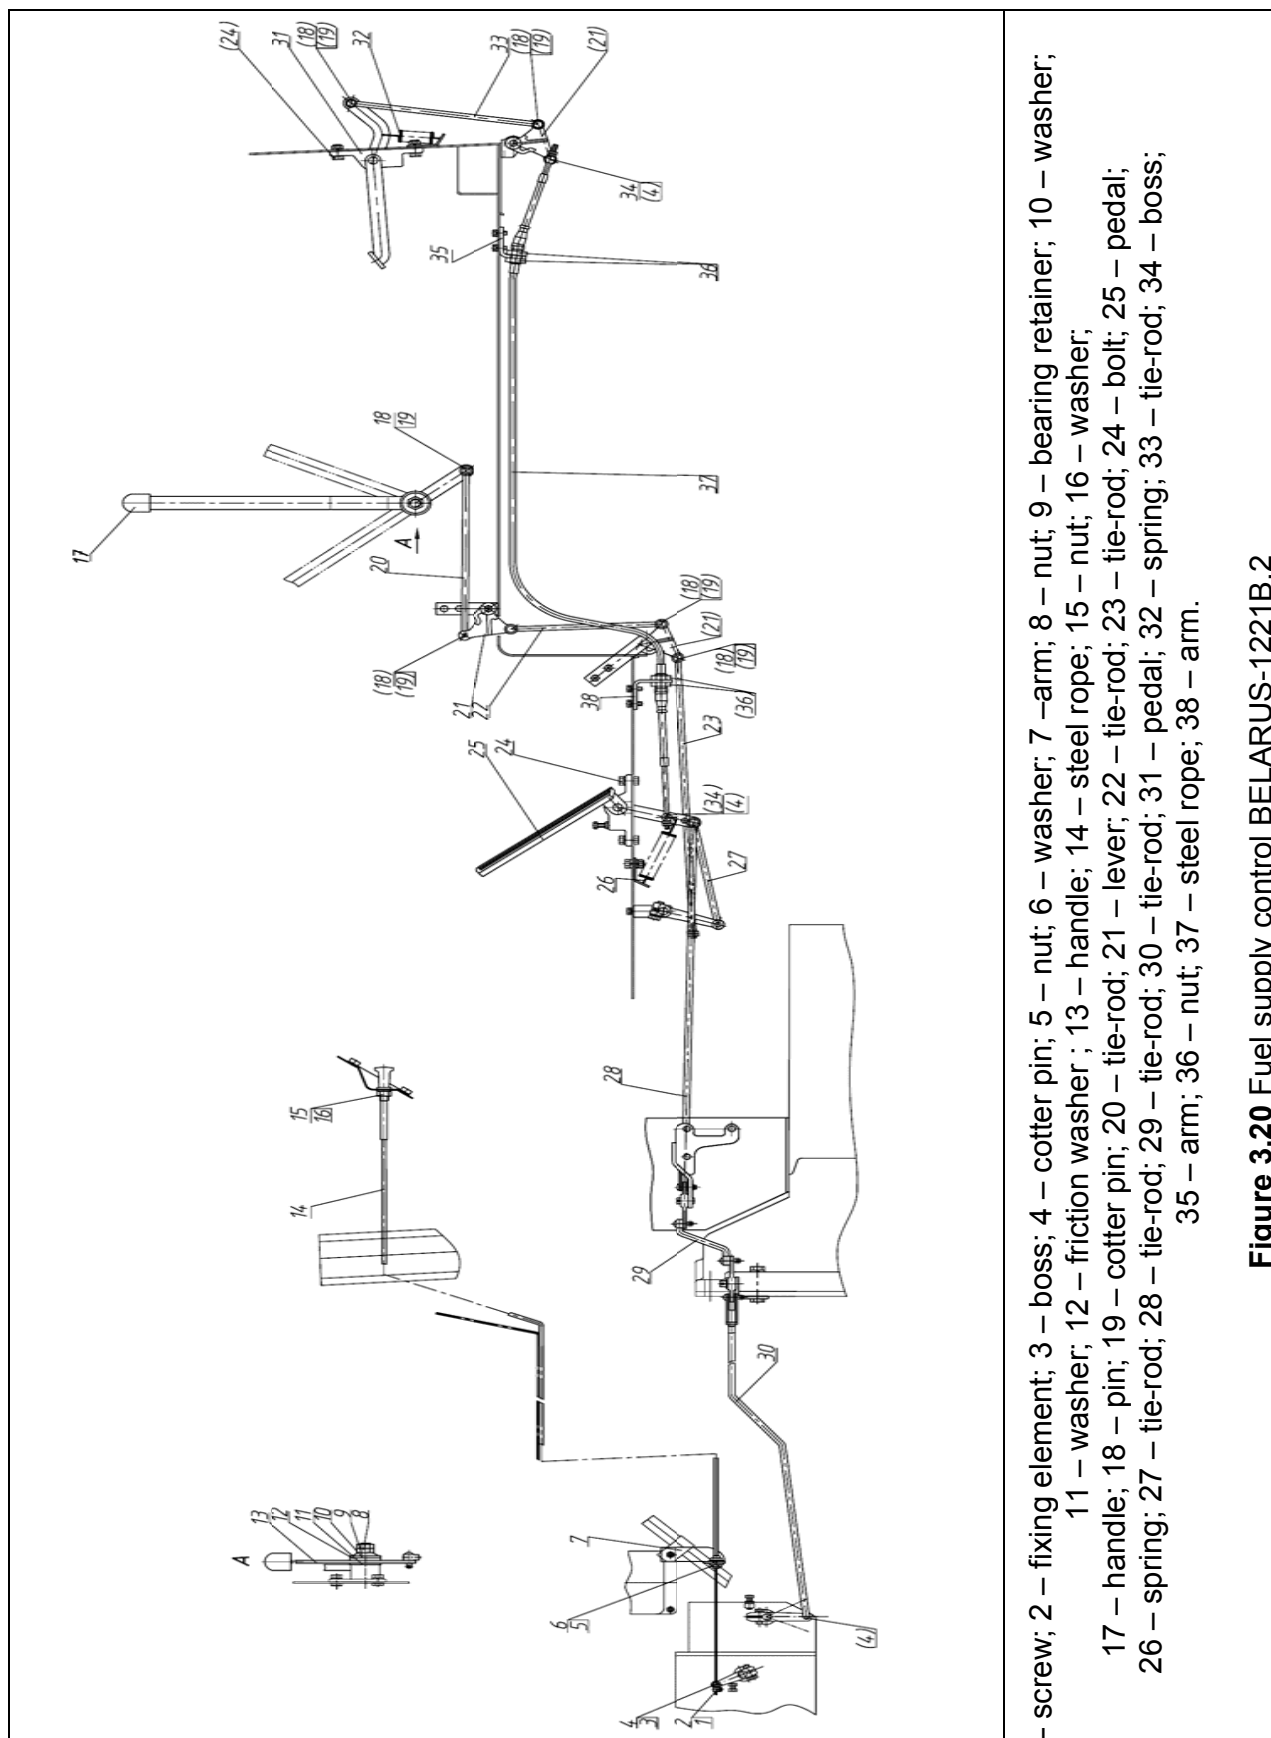

Figure 3.20 Fuel supply control BELARUS-1221B.2
- b) dismantle tie-rods 20, 22, 23 (Figure 3.20), having disconnected cotter pins 19 and pins 18;